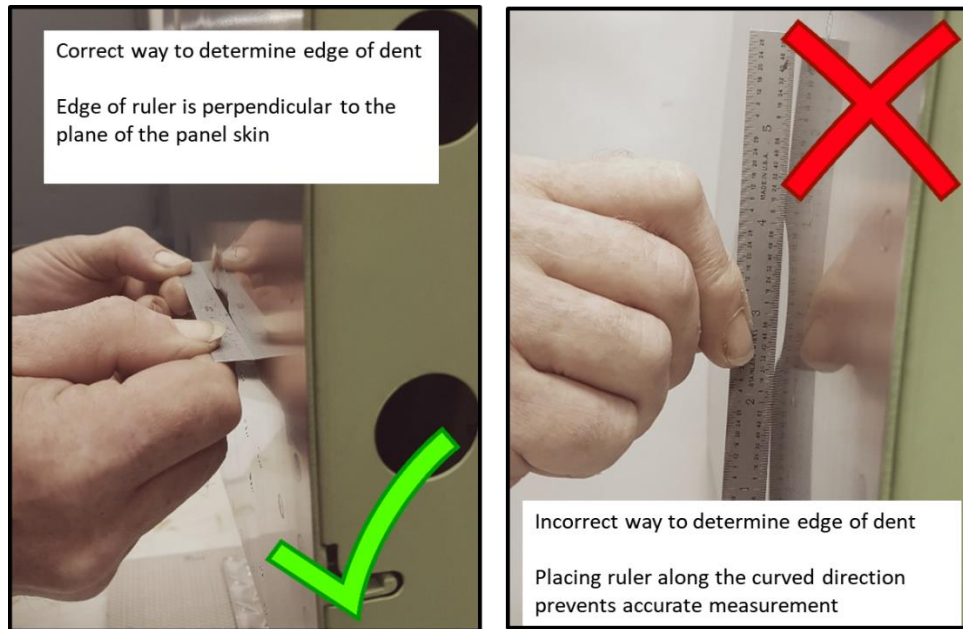
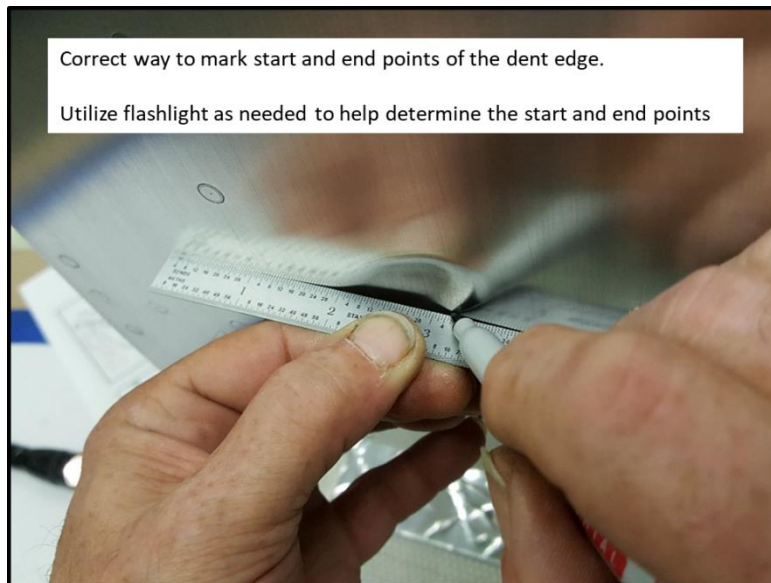

Figure 2
Figure 3
- Place the 6" ruler with its edge perpendicular to the plane of the panel skin / along the direction of zero curvature. (Figure 2). Mark two dots – one on the start point of the dent; and the other on the end point of the dent. (Figure 3)